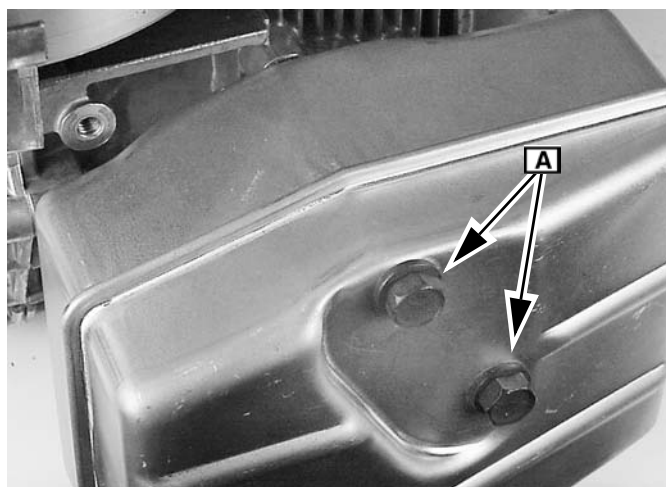

Fig. 23
1. Remove the two bolts **A** that secure the muffler to the cylinder (Figure 23).